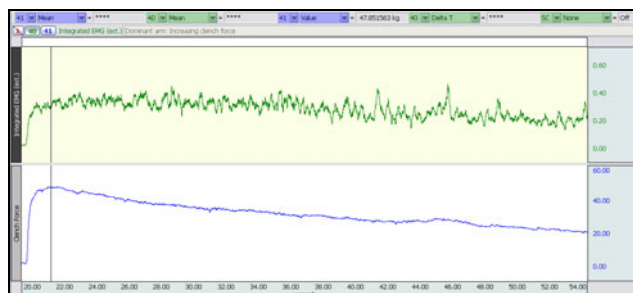

Fig. 2.18
9. Use the **I-Beam** cursor to select a point of maximal clench force immediately following the start of the recording (Fig. 2.18).
The point selected should represent the maximal clench force at the start of continuous maximal clench recording, as shown in Fig. 2.18.